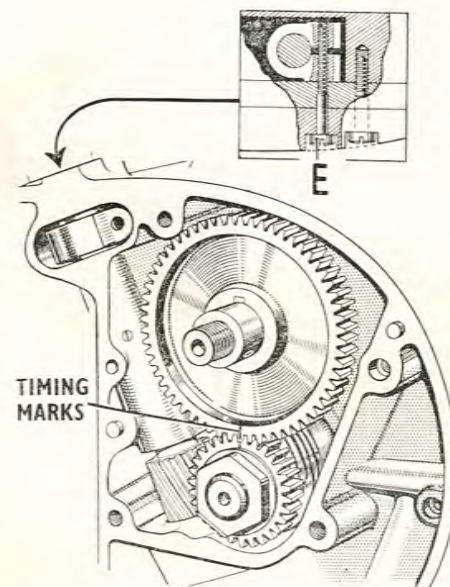

Fig. 7. Valve Timing Marks.
If the ignition setting is incorrect with the piston set as above, slacken the clip screw (E) Fig. 7, and rotate the contact breaker housing gently until the points are just about to open. Retighten the clip screw and recheck the adjustment, as movement of the housing may have disturbed the timing gear backlash.
The timing gears are situated within the inner cover on the right-hand side of the engine. To obtain access to these gears, first remove the exhaust system, and then the footstarter and gearchange pedals from their shafts, followed by the seven cover retaining screws. Note that these screws have recessed heads and require a screwdriver of a special type. Note also that the small-headed screw (E) Fig. 7, at the top of the cover, clamps the contact breaker unit and it will, therefore, be necessary to check the ignition setting after the cover has been reassembled.
With the piston at top dead centre on the compression stroke, the valve timing will be correctly set if the marks on the gears are positioned in accordance with the illustration Fig. 7.